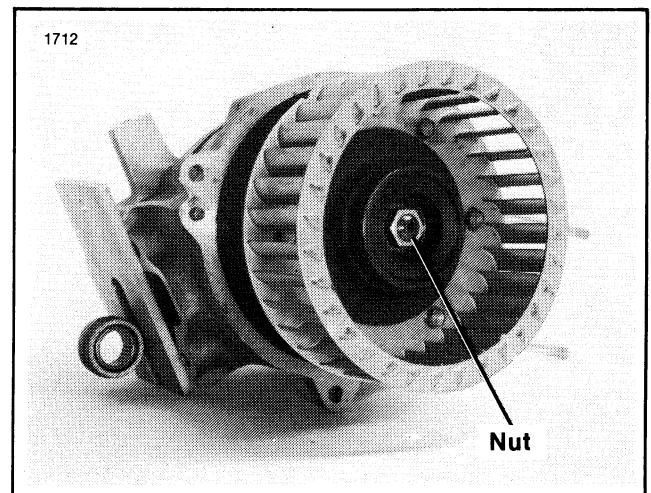

Figure 5-17. Removing Flywheel Nut
7. See Figure 5-17. Place the CONNECTING ROD HOLDING PLATE, Part No. 94403-80, under the rod upper end and remove the nut.